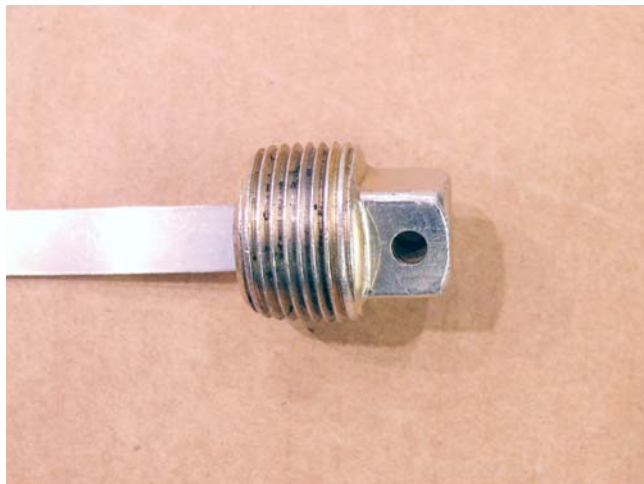

Figure 3.2
It starts at the **reservoir** (tank). See Figure 3.2.
- The tank is vented by a passage drilled through the pipe plug. See Figure 3.2.